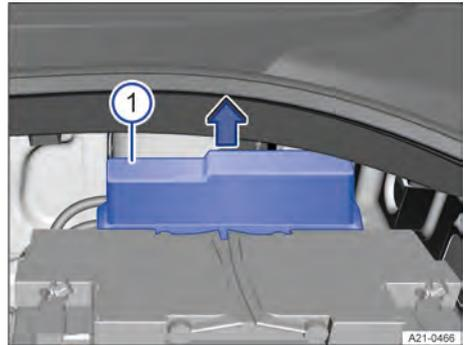

Fig. 174 Under a cover on the left-hand side of the engine compartment: jump-start connection point (positive terminal).
- ① Jump-start connection point (positive battery terminal) for connecting the *red* jump lead.
1. Pull the cap off the jump-start connection point in the direction of the arrow → Fig. 174.